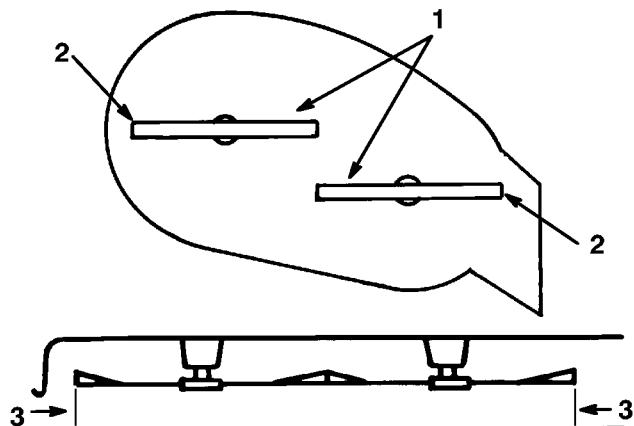

Figure 49
4. Carefully rotate blade(s) side to side (Fig. 49). Measure between the outside cutting edges and the flat surface (Fig. 49). If both measurements are not within $3/16"$ (4.762mm), an adjustment is required; refer to steps 5 and 6.